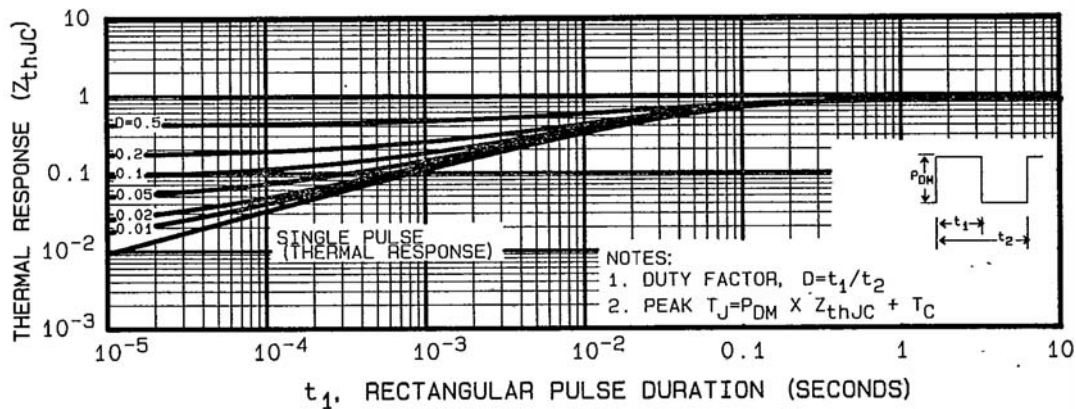

Fig. 14 - Maximum Effective Transient Thermal Impedance, Junction-to-Case vs. Pulse Duration
- a. Repetitive rating; pulse width limited by maximum junction temperature (see fig. 14).
- Repetitive rating; pulse width limited by maximum junction temperature (see fig. 14).